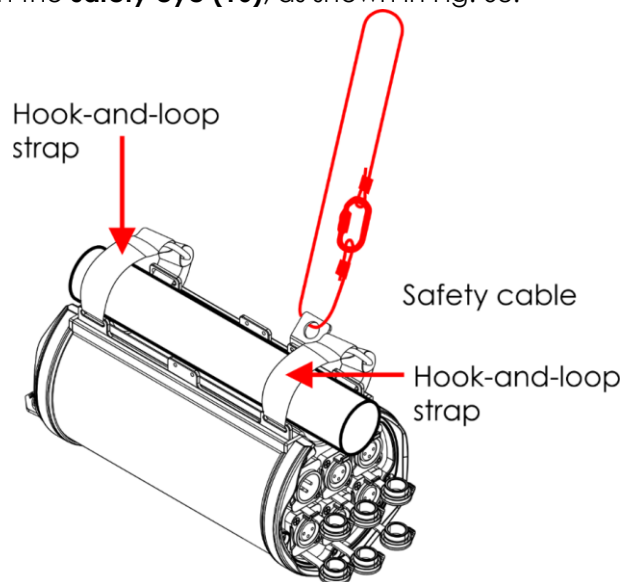

Fig. 08
- 02) Thread the hook-and-loop straps through the **strap slots (14)** to attach the device to the pipe structure, as shown in Fig. 08. Make sure that the device cannot move freely.
- 03) Secure the device with a secondary suspension, for example a safety cable. Make sure that the secondary suspension can hold 10 times the weight of the device. If possible, the secondary suspension should be attached to a supporting structure independent of the primary suspension. Put the safety cable through the **safety eye (16)**, as shown in Fig. 08.